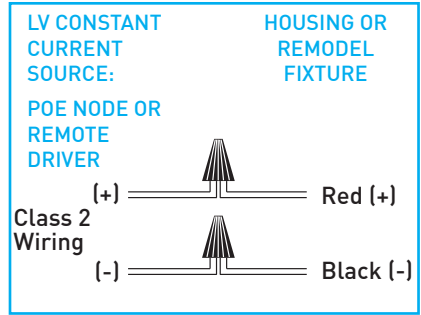

Fig.21
Splice compartment / power supply assembly provides two (2) wires for connection to low voltage: Red (+) and Black (-)(Fig. 21).